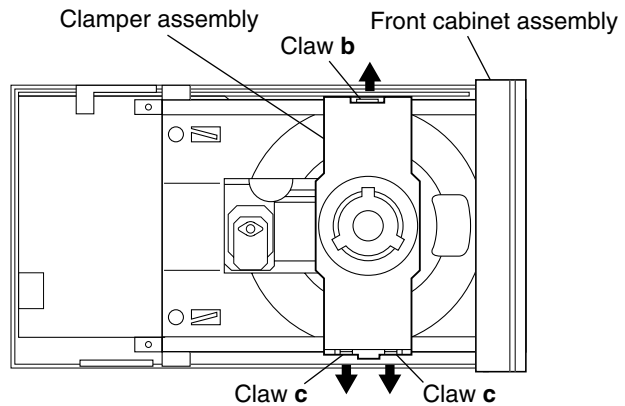

Fig.8
(See Figs. 8 to 11.)
2. Remove the top cabinet. (See **Figs. 8** and **9** of "Main body section" on page 1-8.)
3. From the top side of the main body, open up the claws **b** and **c** on the left and right of the clamber assembly in the direction of the arrows and lift the assembly to remove it. (See Fig.8.)